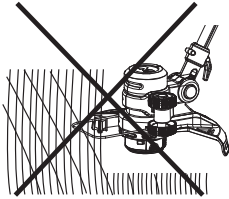
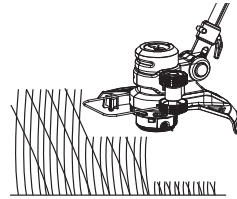

Fig. 18
Fig. 19
7. Ensure the cutting device remains clean and free from off-cuts that may cause it to jam. Check regularly. Release the on/off switch (2) and disconnect the product from the power supply before checking.
8. Trim longer grass in stages; do not cut long grass in one cut (Fig. 18). For the best results, cut longer grass in steps (Fig. 19).